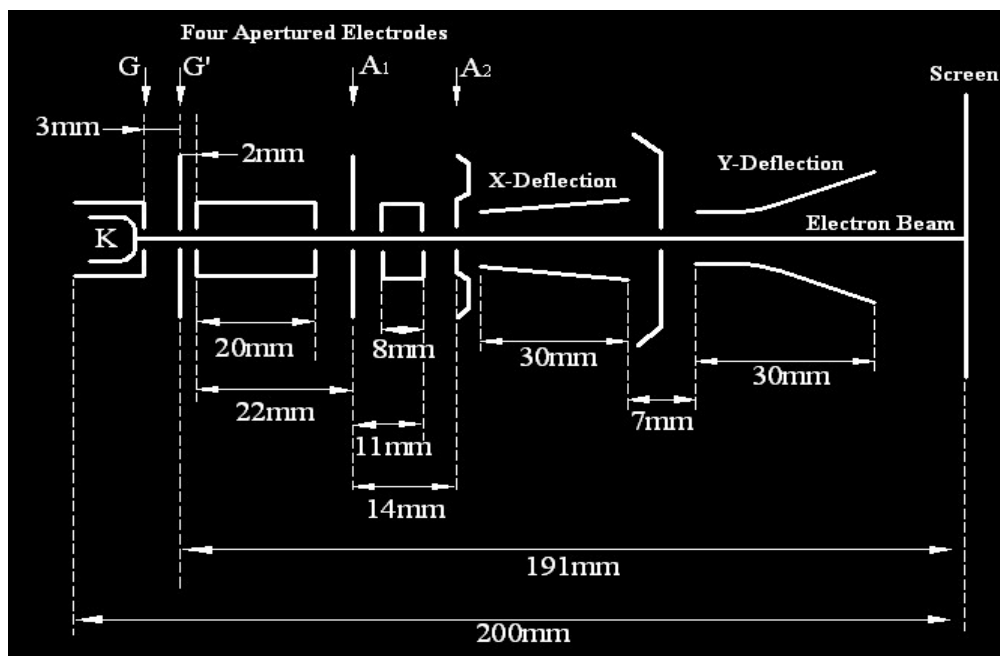

Figure 14 Internal structure of CRT
- 2) Adjust focusing and auxiliary focusing knobs to optimize electron beam focusing. Use (9) to calculate focal length f with the parameters given in Figure 14. **Note:** in Figure 14, the parameters are only for reference, actual parameters for individual CRT may vary.